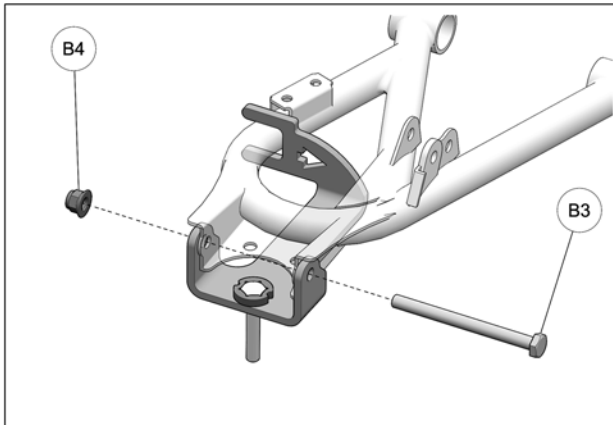

Fig. 10
9. Insert M10x120 mm assembly bolt (B3) through bracket, a-arm and hub. Thread nut (B4) on bolt and tighten to 50 N•m of torque [37 lb•ft]. See Fig. 10